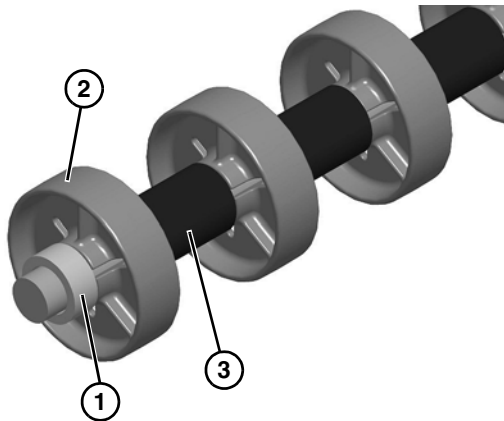

Figure 73
- Remove spacer (**Figure 73, item 1**), rollers (**Figure 73, item 2**) and tube spacers (**Figure 73, item 3**) from shaft.